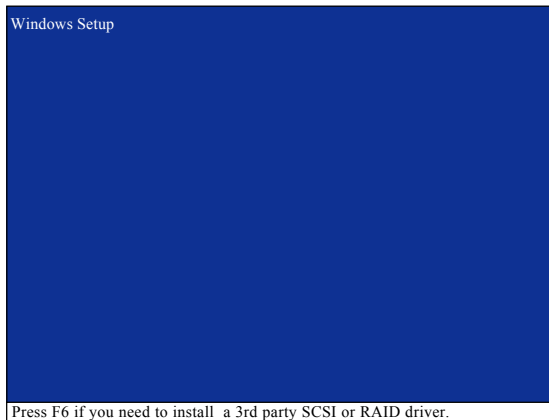

Figure 18
Step 1: Restart your system to boot from the Windows 2000/XP Setup disk and press F6 as soon as you see the "Press F6 if you need to install a 3rd party SCSI or RAID driver" message (Figure 18). After pressing F6, there will be a few moments of some files being loaded before you see the next screen.